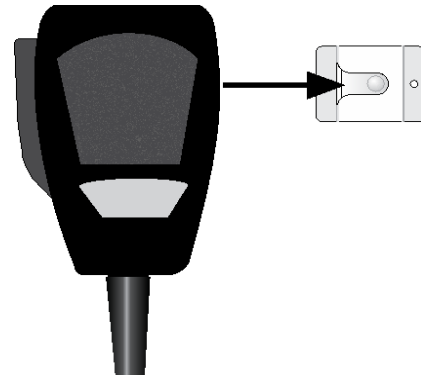

Figure 6 Sliding the Microphone into the Microphone Clip
1. Attach the microphone into the microphone clip. See Figure 6.